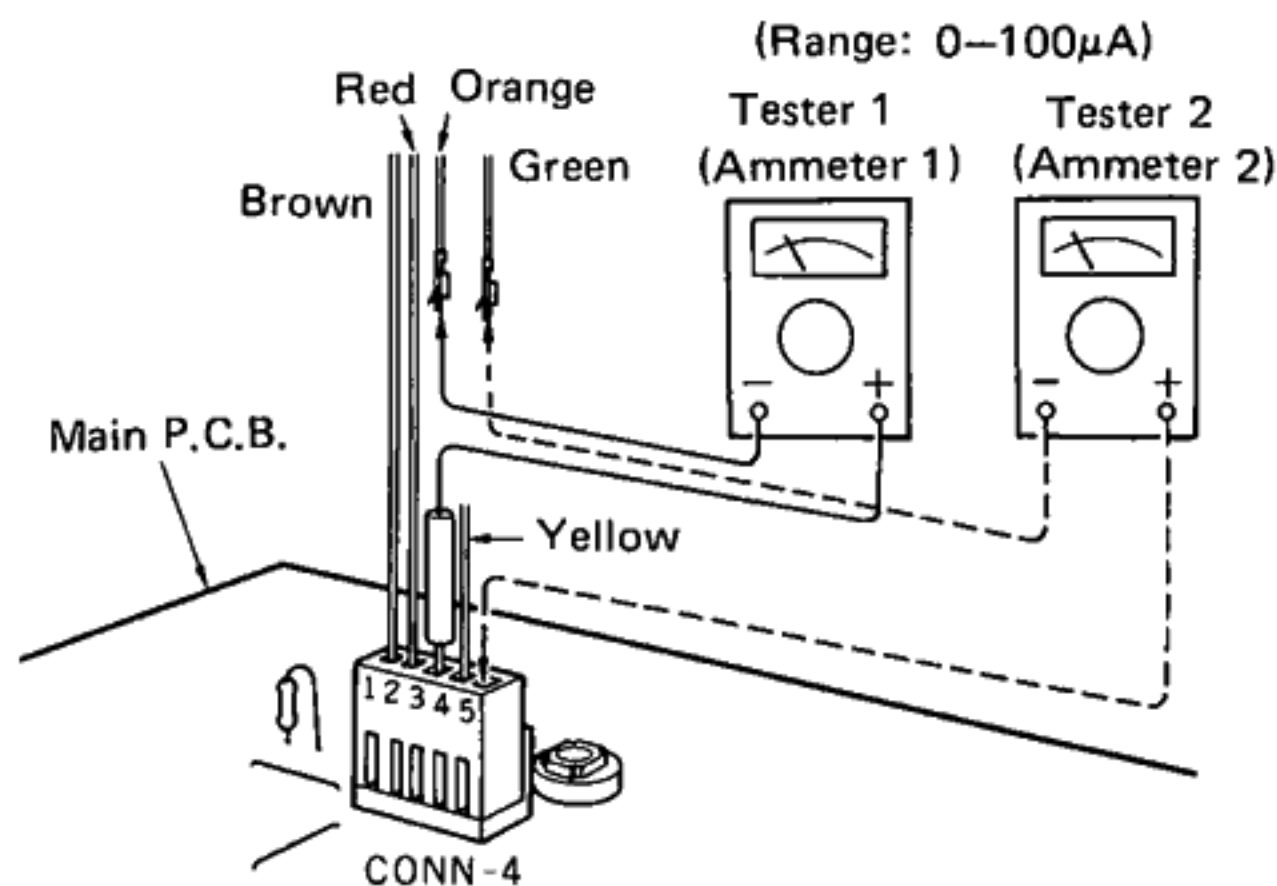

Fig. 13
- 4) Fig. 13 gives a detailed view of CONN-4. Push pins 3 and 5 (at Point A shown in Fig. 13) with a minus ⊖ screwdriver and remove the lead wire.